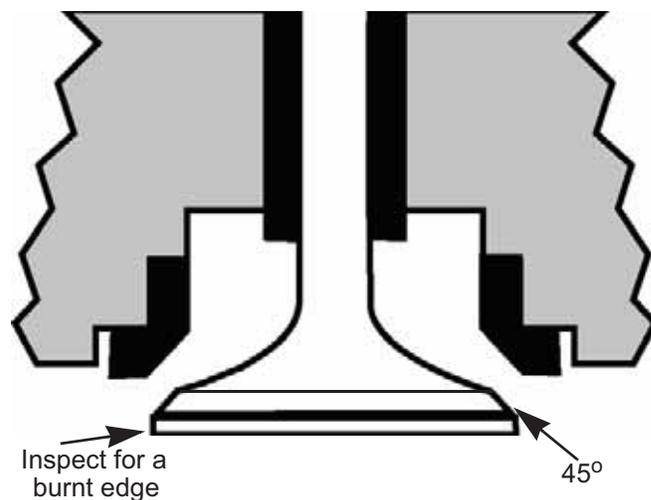

Figure 9.14
- Inspect the valve stem. See Figure 9.14.